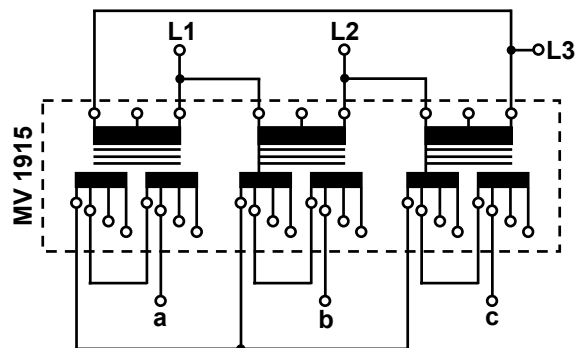

Figure 6: Connection of MV 1915 three-phase power transformer with ΔY-connection
1. Continued from TEST 2, for three-phase power transformer (MV 1915), connect the primary windings as Δ-connection as shown in Figure 6. The secondary winding remains as Y-connection.